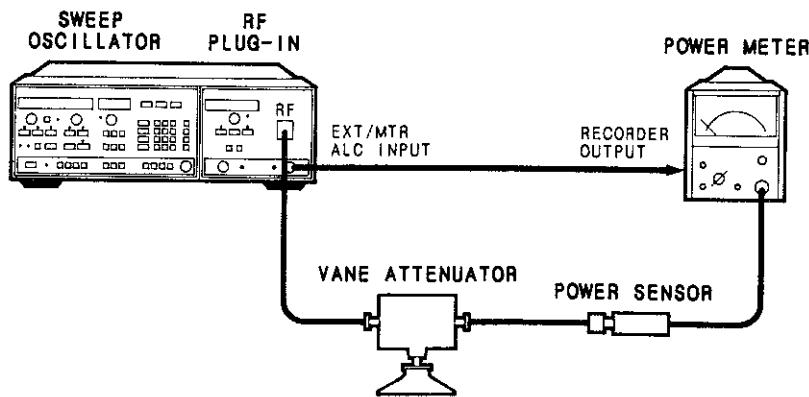

Figure 4-5. Power Meter Leveling Test Setup
9. Connect the equipment as shown in Figure 4-5. Set the vane attenuator to 10 dB.